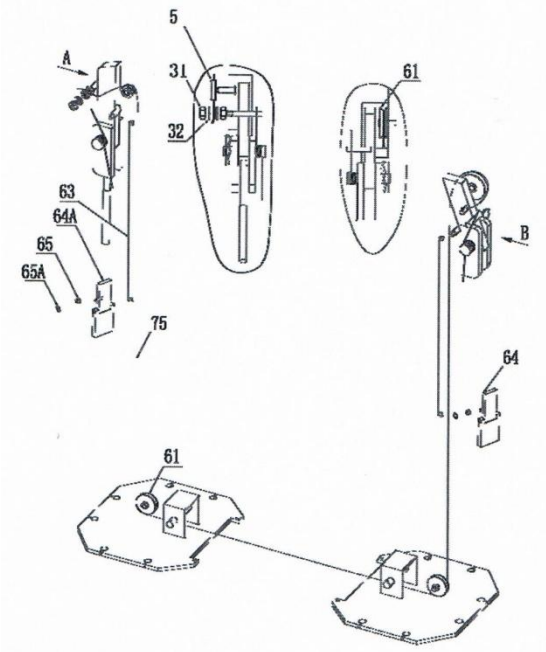

Fig. 7
G. Install Safety Device and Safety cable (See Fig. 7)